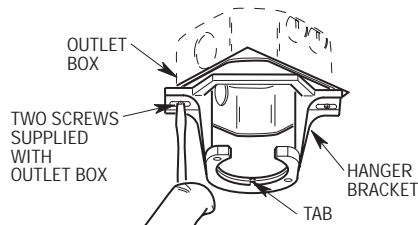
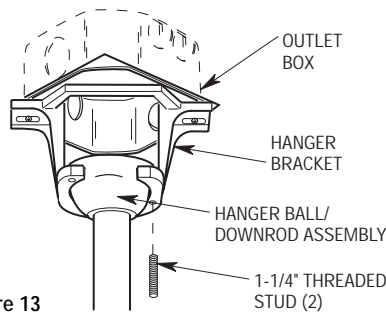

Figure 12
Figure 13
- 1. Securely attach the hanger bracket to the outlet box using the two screws supplied with the outlet box (Figure 12).
- 2. Carefully lift the fan and seat the hanger ball/downrod assembly on the hanger bracket that was just attached to the outlet box (Figure 13). Be sure the groove in the ball is lined up with the tab on the hanger bracket (Figure 12).
- 4. Screw the two 1-1/4" threaded studs (supplied) into the tapped holes in the hanger bracket (Figure 13).